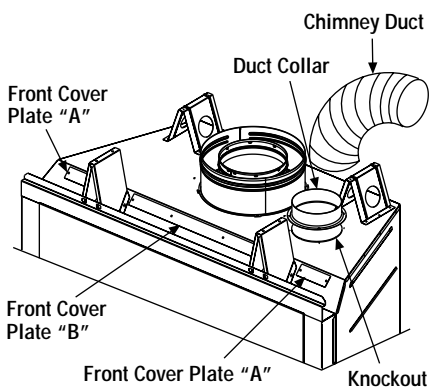

Figure 18
Step 5. Attach the cold climate kit, Model CCK-HCRD, around the chimney collar with the screws provided (see *Figure 18*).